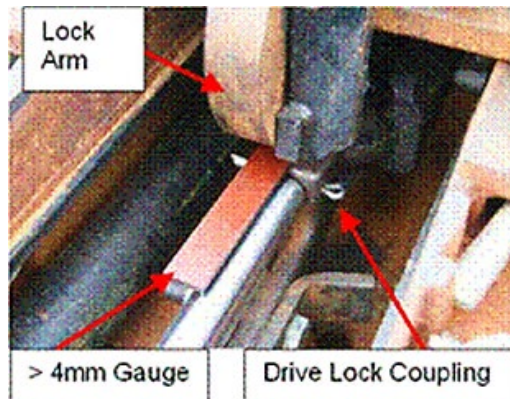

Figure 15 – Lock arm clearance
20.9 Check the gap between top of drive lock coupling & bottom of lock arm is greater than 4mm. See Figure 15.